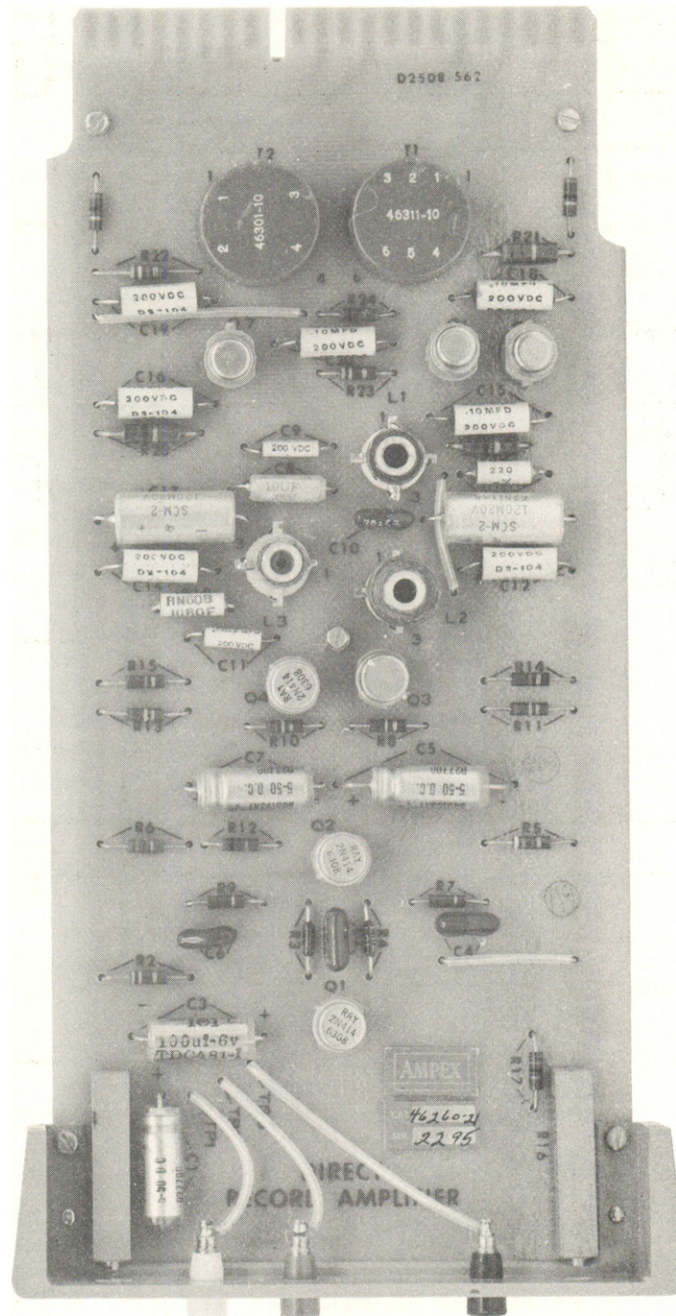

Figure 5-5 Typical Direct Record Amplifier
5.49 The Direct Record Amplifier (see Figure 5-5) accepts wideband data signals which are mixed with the 1.0 mc bias signal from the master bias oscillator in order to drive the record heads.